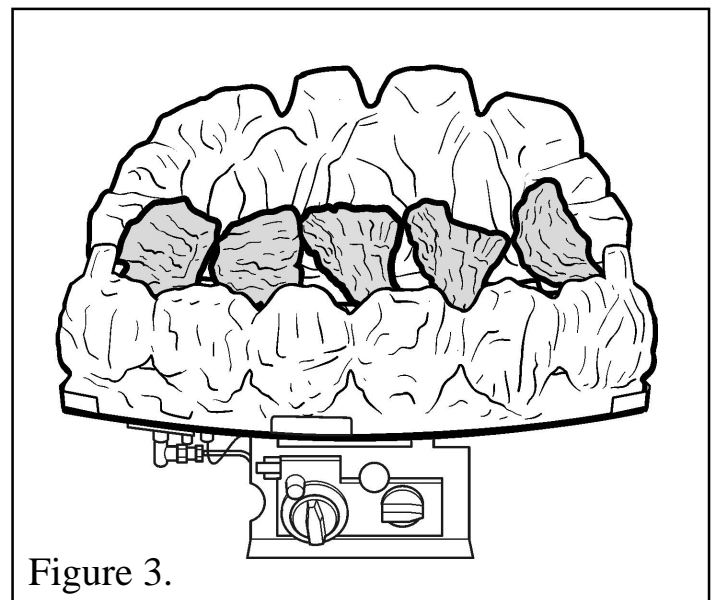

Figure 3.
1. Open the bags and keep the different types of coals separate. Take five random coals and place along the front base coal as shown in figure 3. Ensure that these coals bridge across from the front base coal to the rear base coal.